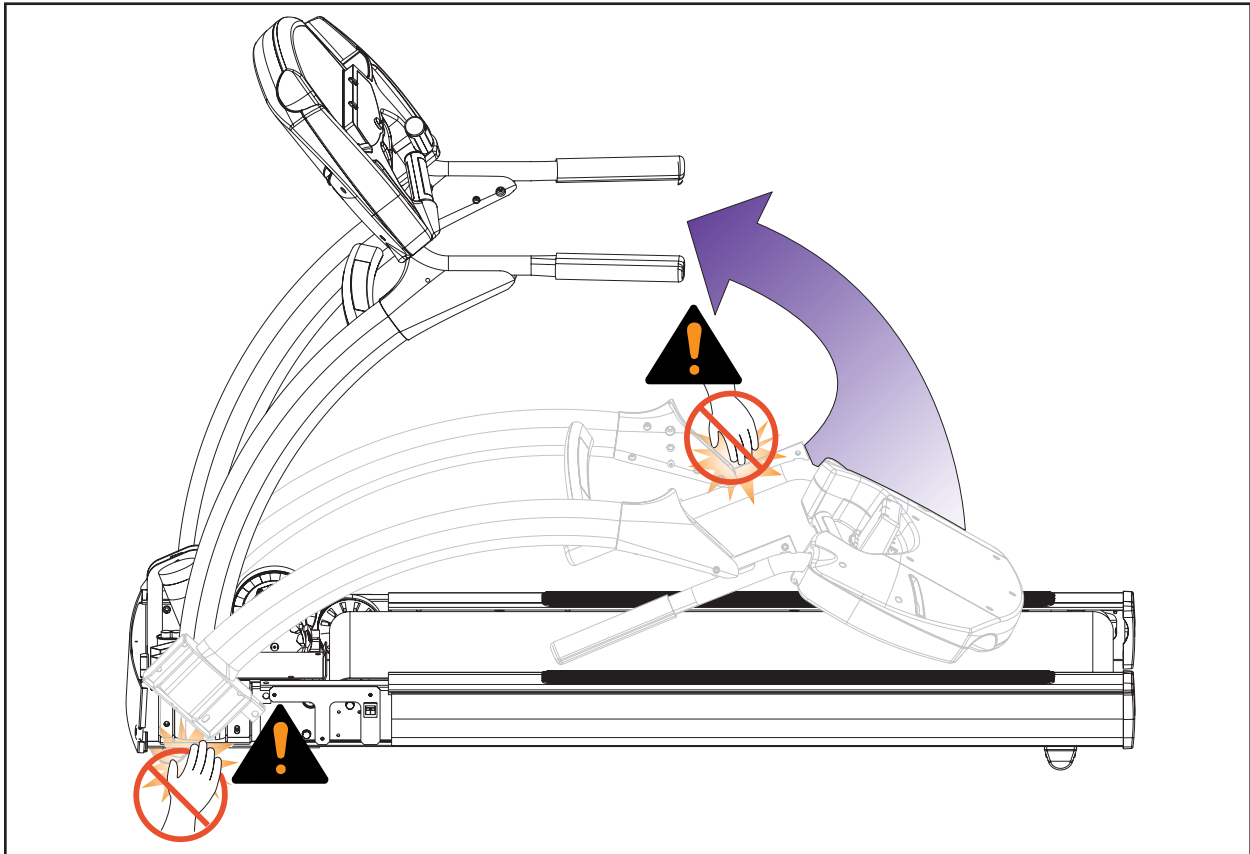

Figure 3
! CAUTION: Do not pinch your hands or other body parts while pivoting the treadmill. See Figure 3.
- C. Raise the console and uprights into position (they will pivot into place). **NOTE:** Confirm that no cables are pinched while raising the unit. See Figure 3.